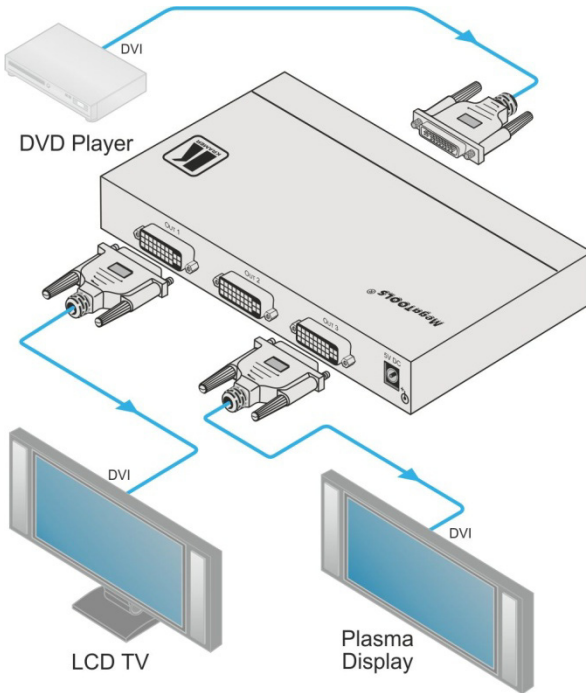

Figure 3: Connecting the VM-400HDCP 1:4 DVI Distributor
To connect the **VM-400HDCP** as illustrated in the example in Figure 3:
3. Connect the power adapter to the **VM-400HDCP** and to the mains electricity (not shown in Figure 3).